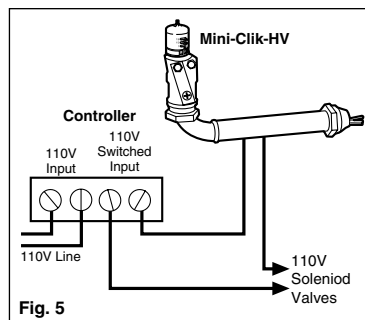

Fig. 5
C. Special Instructions for Mini-Clik-HV (See Fig. 5 and 6)